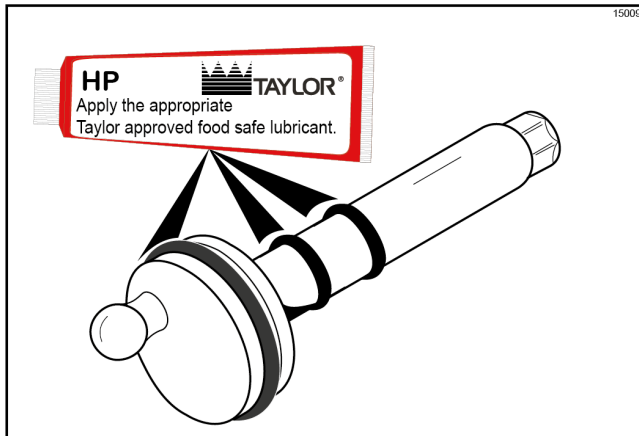

Figure-155
13. Slide the large black O-ring and the two smaller black O-rings into the grooves on the driveshaft. Thoroughly lubricate the O-rings and shaft. **Do not** lubricate the hex end of the shaft. (See Figure-155.)